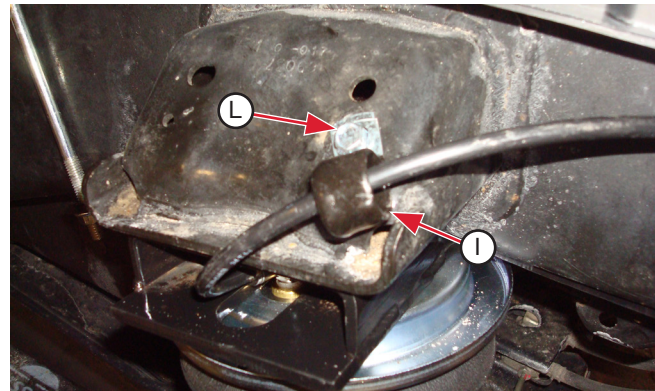

Fig. 19
3. For the air line, it is recommended that the air line be routed along the top of the frame, in front or behind the axle, then down to the fitting (Fig. 19). After cutting the air line to length, insert the air line into the fitting. Secure the air line to the upper jounce bumper mounting bracket, by attaching a P-clamp (I) around the hose and attaching it to the jounce bumper bracket by driving the #14-1/4" x 3/4" self-tapping screw (L) using the small hole as a pilot. Secure the air line to the frame or where needed using the zip ties (BB) supplied.